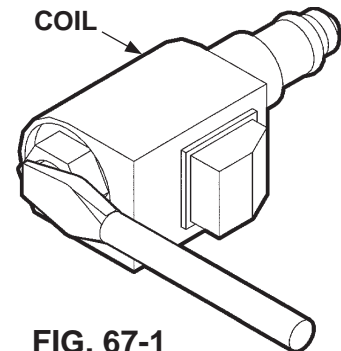

FIG. 67-1
1. Check if solenoid valves are constantly energized by touching a screwdriver to the top nut of the solenoid (**FIG. 67-1**). Try pulling the screwdriver away from the solenoid. If the solenoid nut attracts the screwdriver (magnetically) without pushing the toggle switch, the control circuit is operating incorrectly. Check if toggle switch, wiring or coil are faulty.